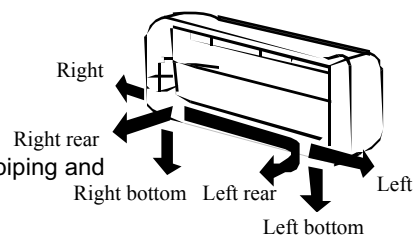

Fig. 2
③ Install the drainage hose
- As shown in Fig. 2, the pipe could be lead out, from six direction, according to desire to select one of these.
④ Install the connection pipes